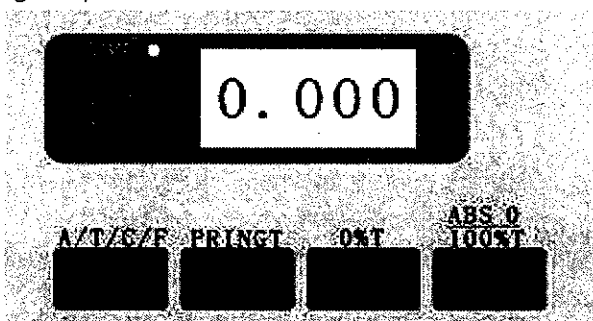
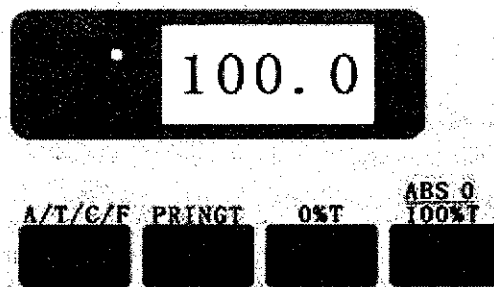

Fig.1-10
Fig.1-11
- a. When in A or T mode, close the sample compartment, press the key and it will read 0.000 (Fig.1-10) or 100.0 (Fig.1-11).